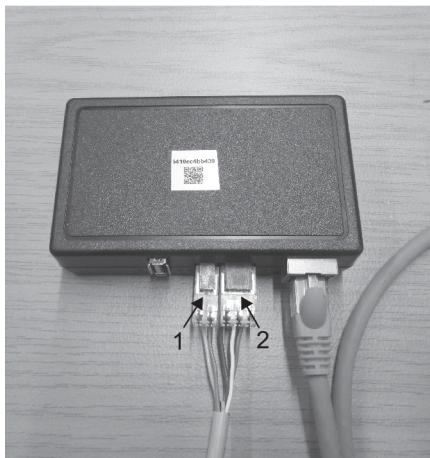

Fig. 5: Cable connection at the connectivity module
- Insert the cable into the 2- and 3-pin ports of the of the connectivity module (see Figure 5).